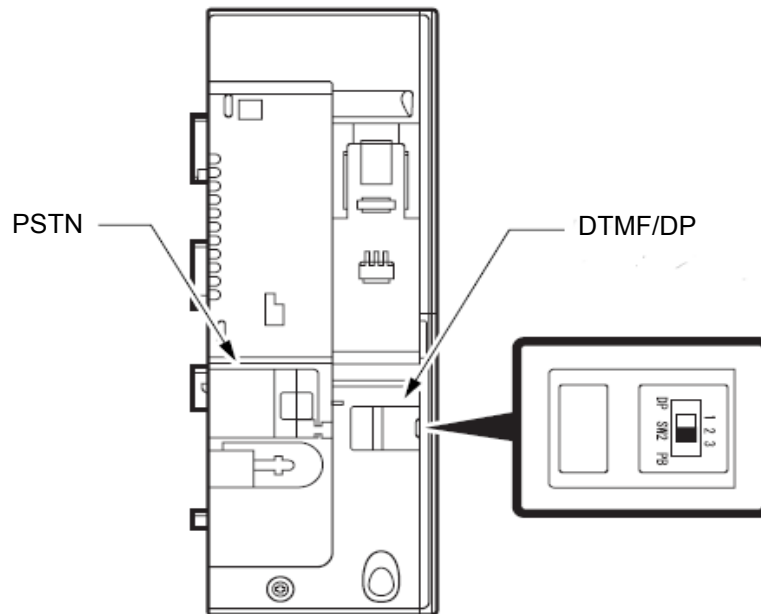

Figure 6-35 PSA-L UNIT Connections
12. Open the Dip Switch Cover (refer to Figure 6-35 PSA-L UNIT Connections on page 6-44). Set the dip switch on the PSA-L adapter to the required position. Close the cover.
15. Attach the analog trunk cable and the handset cable. Refer to Figure 6-35 PSA-L UNIT Connections on page 6-44.